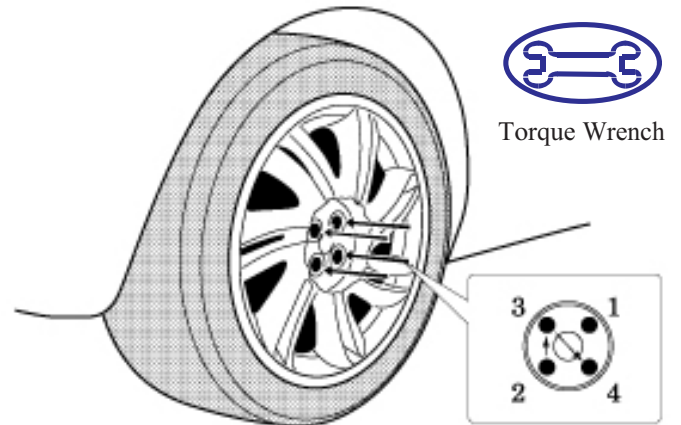

Fig. E-1
- ➔ 1. Install wheel/tire assembly on vehicle. Hand start the lug nuts during installation. Tighten lug nuts in sequence 1 through 4 (Fig. E-1). Ensure that the socket does not scuff the wheel. Tighten to 76 lbf-ft (103 N-m) using a torque wrench.